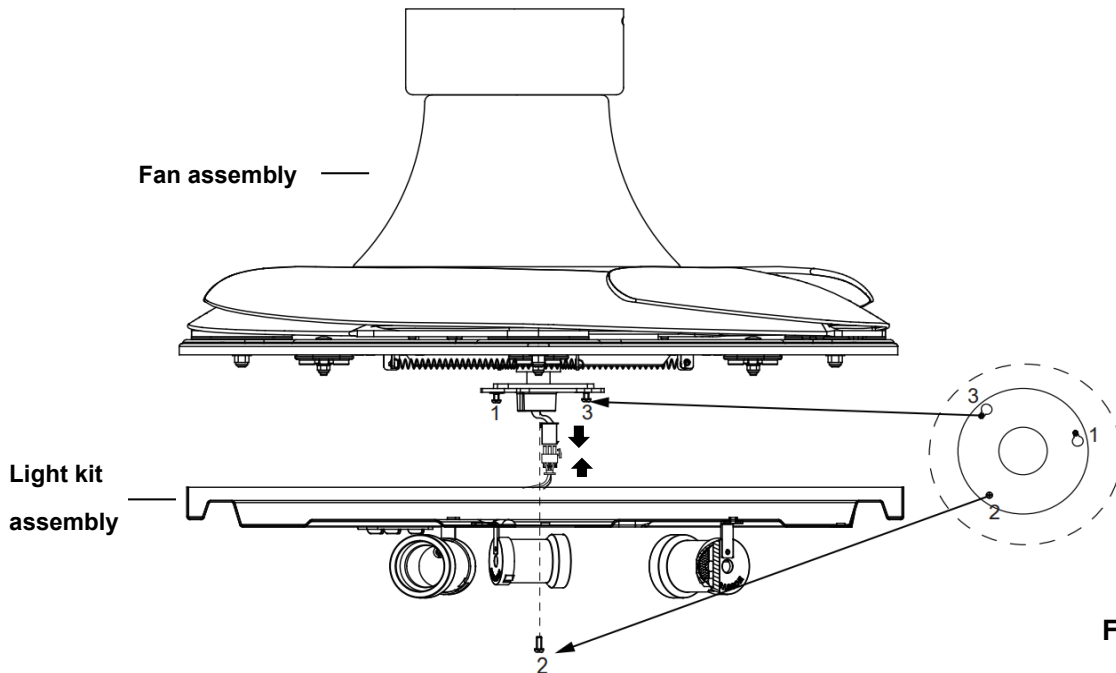

Fig. 9
LIGHT KIT INSTALLATION (Fig.9 & 10&11)
1. Loosen the screw (2) from the fan bracket. Align the two slot screws with the keyhole slot (1) and (3) of the light kit plate. (**Fig. 9**)
2. Turn the light kit counterclockwise until the slot screws are firmly at the end of the slots (2).
3. Secure screw (2) to the light kit plate. Tighten all three screws. Do not over-tighten.
4. Connect the quick connector of fan assembly to the quick connector of the light kit assembly (Fig. 9).